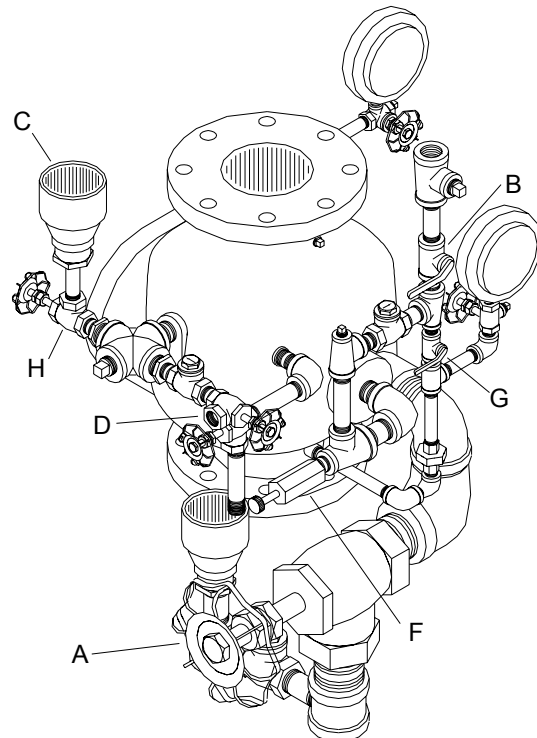

FIG. 4
Included in the outside trimmings of the Dry Pipe Valve is an **alarm test valve "G"** (Fig. 4). This valve may be opened at any time when the system is in service to test the operation of the alarm devices only.
2. Open the **main drain valve "A"** (Fig. 4). When this valve is opened to drain the system, make certain that the discharge from the system drain does not flow into an area where a large flow of water will cause damage. Make sure that all low points in the system are also drained through any other existing auxiliary drain valves provided. Make certain that all auxiliary or low point drain valves are closed tightly after all water has been drained.
5. When the clapper is resting properly on the seat ring, and the forward left end of the lever is engaged under the locking stud, replace the cover plate with gasket, bolting it securely. At this point make certain that the **main drain valve** is not closed. Open the **priming valve "H"** (Fig. 4). Obtain approximately 3 quarts of clean water. Pour the water into the **priming cup "C"** (Fig. 4) slowly until the water has passed through the opened priming valve and into the body of the dry pipe valve. The valve must be primed with water with no air pressure in the system piping. After the priming water is introduced into the valve body, close the **priming valve** tightly.
6. Introduce air into the system by starting the primary air source compressor and/or by opening the supply valve from an air storage tank. The **main air supply valve** is indicated as "D" (Fig. 4).
When the desired air pressure (see table on page 6) is indicated on the air pressure gauge, shut off the air compressor and/or close the **main air supply valve**. Open the main water supply valve with the **main drain valve** slightly open to exhaust any air which may be trapped under the main valve clapper, close the **main drain valve** and make certain that the main water supply valve is in the full open position. If air or water is leaking from the **mechanical drain "F"** (Fig. 4), this will indicate a leakage either through the clapper at the main seat or through
Open **alarm test valve "G"** (Fig. 4). This will allow water from below the dry pipe valve seat to be diverted through a by-pass line directly to the mechanical or electrical alarm mechanisms. Make certain that the **alarm test valve** is wide open during the
alarm test. The **alarm shut off valve "B"** (Fig. 4) must remain open at all times during alarm test and while the sprinkler system is in a normal operating condition. The **alarm shut off valve** is used only to shut off alarm when necessary during maintenance procedures.
After a satisfactory alarm test is accomplished, make certain that the **test valve "G"** (Fig. 4) is closed tightly.